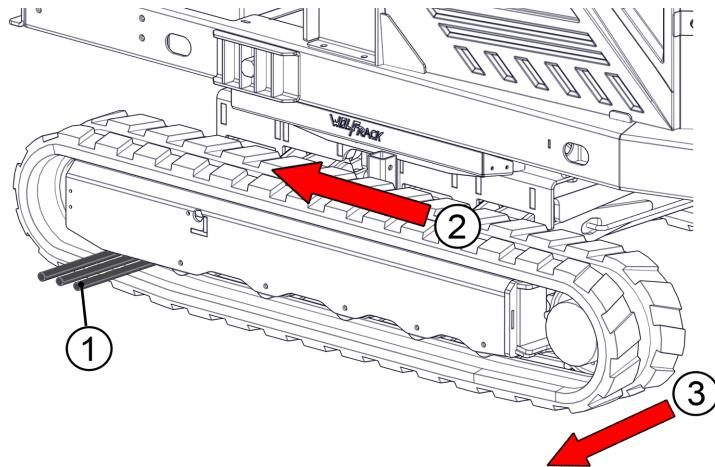

Figure 40 - Track Removal
3. Insert three steel tubes inside the track, in the space between the rollers (Figure 40, Item 1).
4. Rotate the driving gear in reverse so that the steel tubes proceed with the track and engage in the track-stretching wheel (Figure 40, Item 2).
5. Exercise sideways force to slide the track along the steel bars and off of the track-stretching wheel (Figure 40, Item 3).